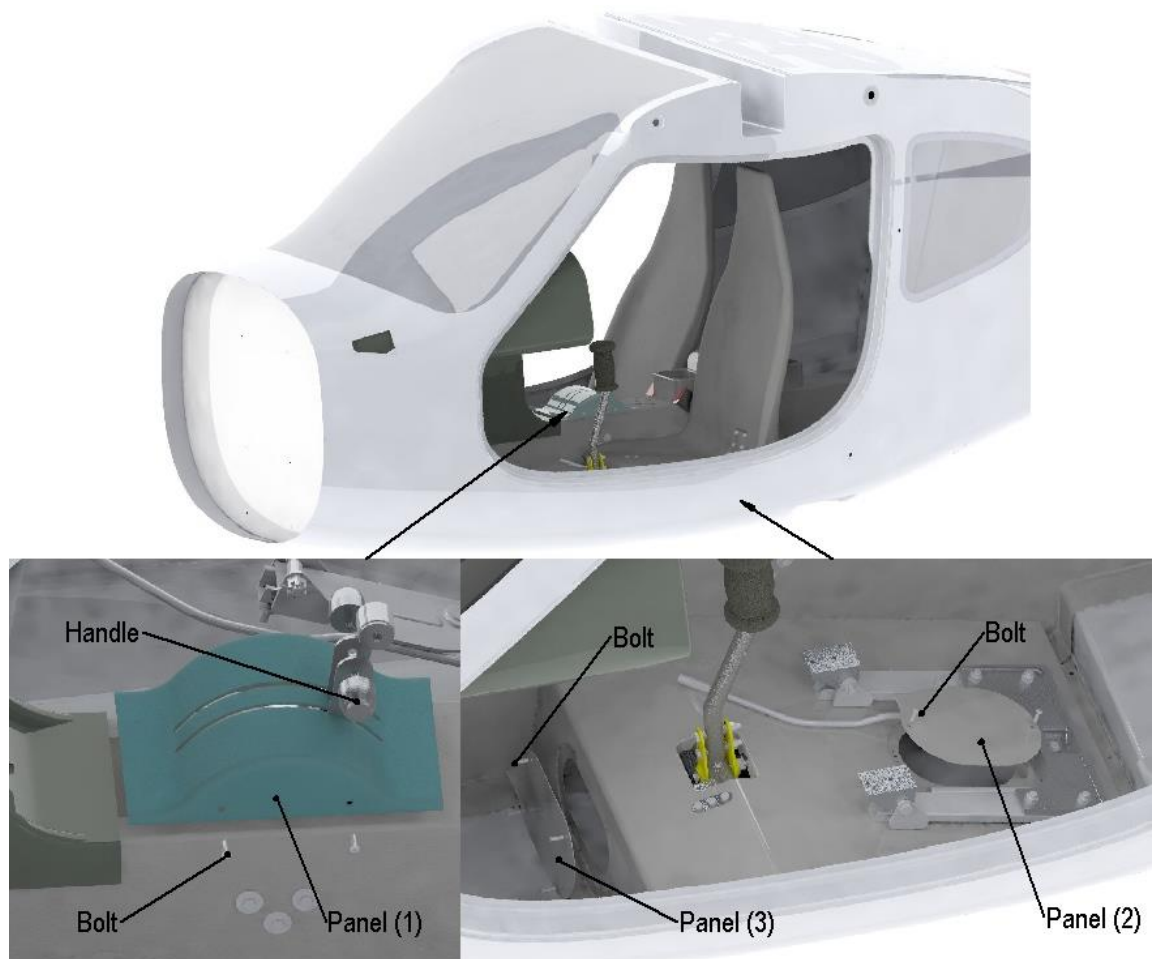

Fig. 25-00-3
B. Access Panels Removal and Installation (Fig. 25-00-3).